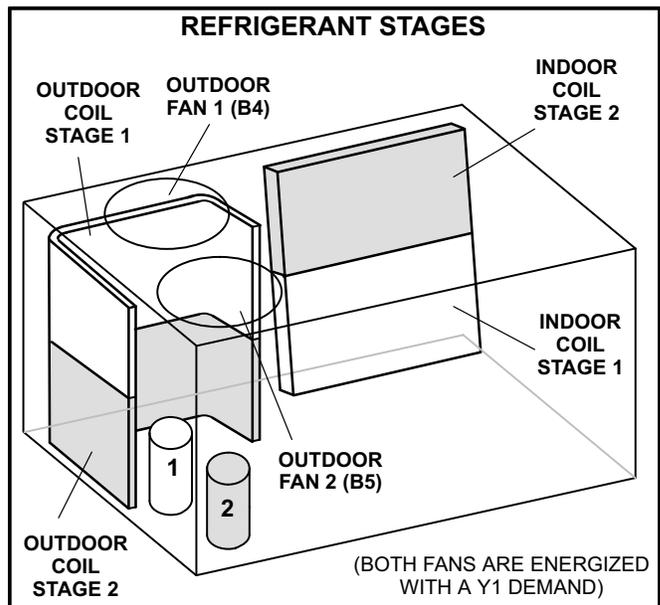

FIGURE 10
- 3- Units contain two refrigerant circuits or stages. See figure 10.